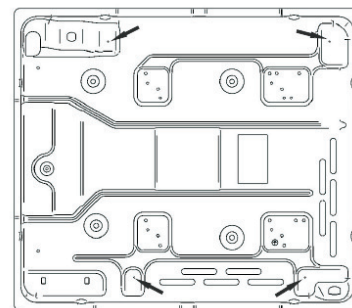

Fig. 1C
- Use the 4 clamps and 4 screws supplied in the parts bag. To assemble, attach the 4 clamps to each corner of the Burner box via the screws provided (Fig. 1C). Position the cooktop so it is centred, then swing the Clamps under the benchtop and tighten.